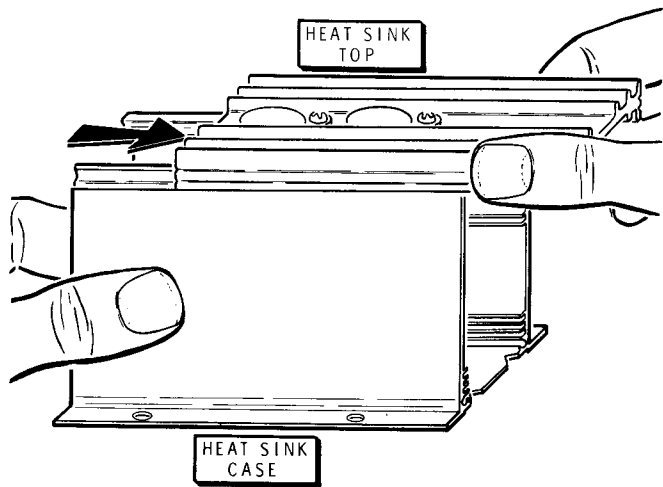

Figure 2
Refer to Figure 2 for the following steps.
- (✓) Position the heat sink as shown in Figure 2 and observe the seam that separates its top and case sections.